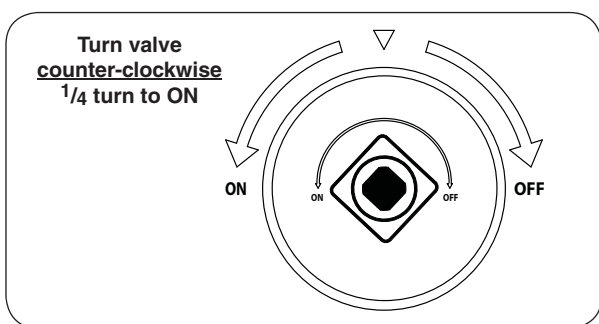

Fig. 39-2 ON/OFF key valve detail
2. Turn the ON/OFF key valve counter-clockwise a 1/4 turn to the **ON** position (Fig. 39-2).